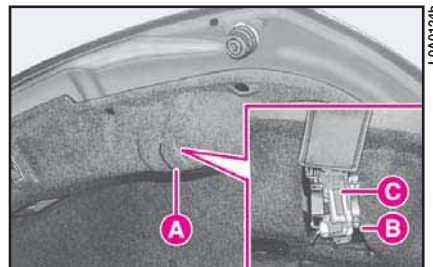

fig. 27
1) Open the tailgate and lift the covering **A** (fig. 27) near the bulb to be replaced.